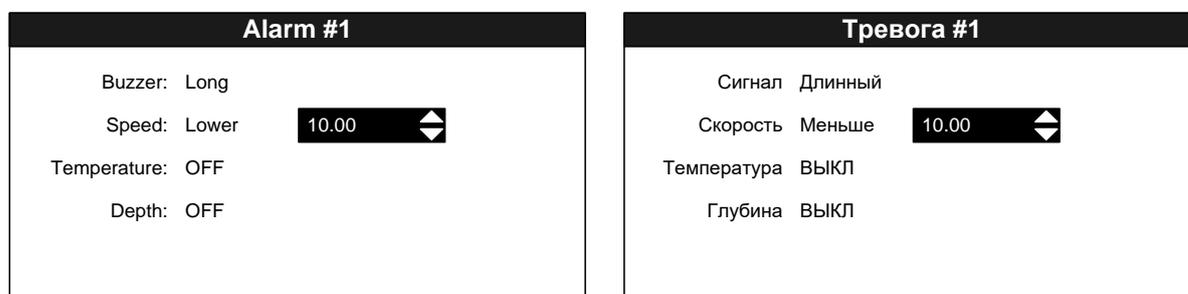

Figure 28 – Settings of alarm parameters
– once “Lower” and “Higher” are selected, the field to set parameter value will appear on the right, see Figure 28. Select the value using “◀” and “▶” buttons, then press “ENTER”;